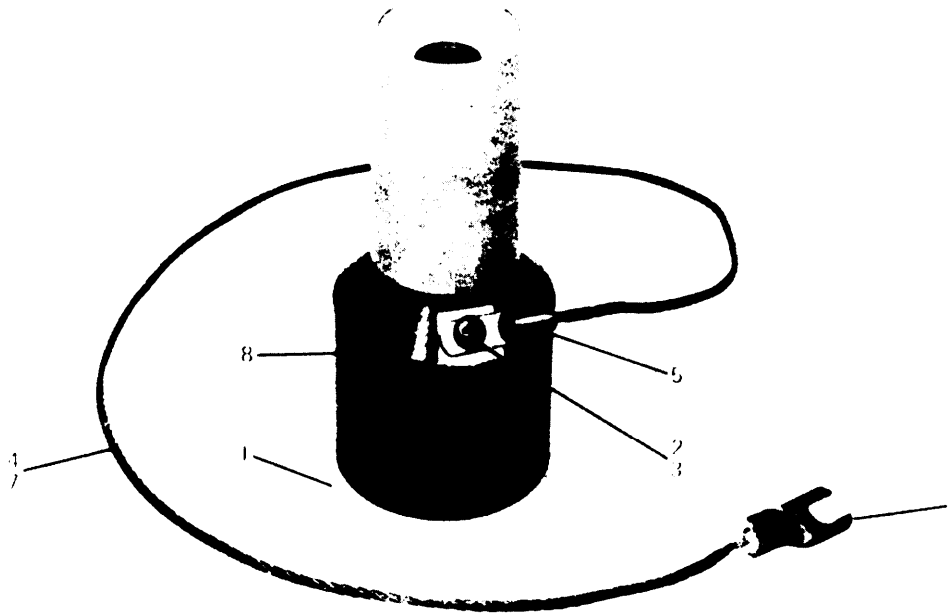

Figure 5-3. Adapter, MX-9313/GR, parts location.
If Adapter MX-9313/GR is used, check tightness of ground wire attachment screw (item 2, Figure 5-3) and ground connection to vehicle.